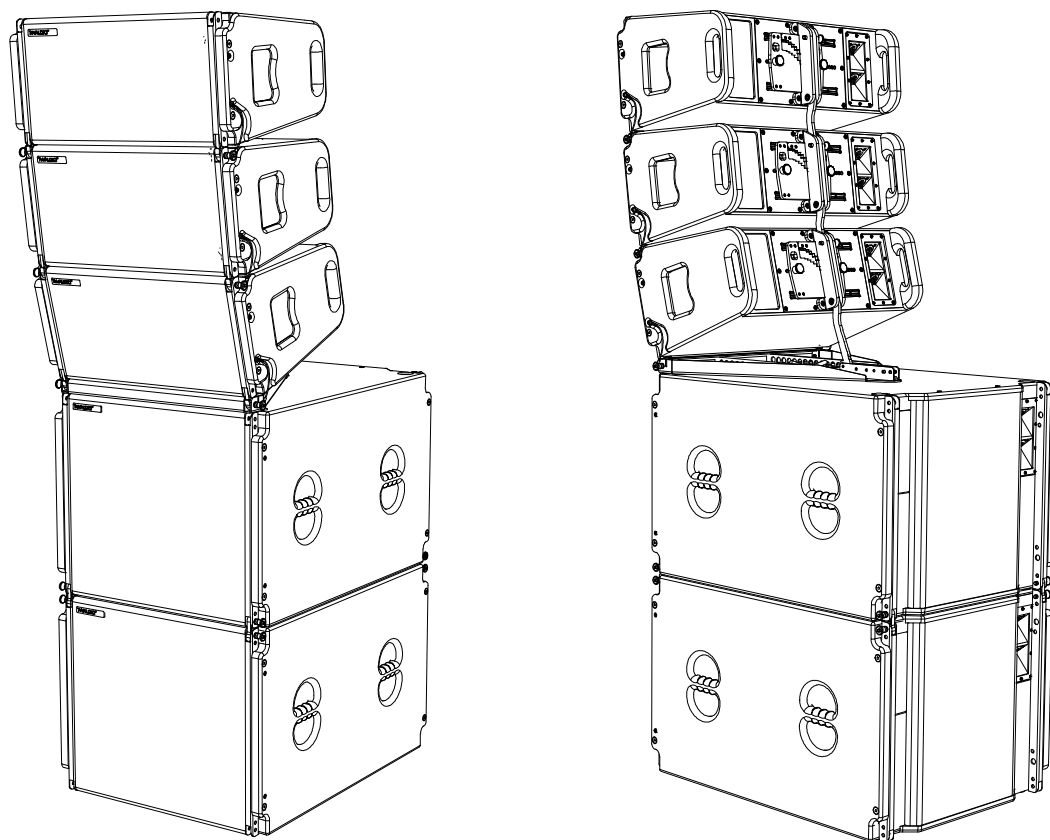

Figure 4.8 - System setup ground stack
To assemble a ground stack of subwoofers and VERA20 loudspeakers (see figure 4.8) place the GSP20 ground stack plate between the upper subwoofer and the VERA20 loudspeakers. Use the captive M20 screw connector (see figure 2.1, pos.2) for assembly!